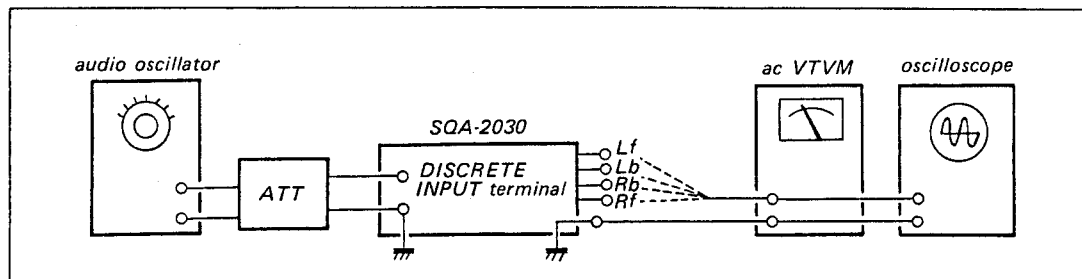

Fig. 3-2. Discrete output level check setup
2. With the equipment connected as shown in Fig. 3-2, feed 1 kHz/-15 dB signal to the each DISCRETE INPUT terminal of SQA-2030.